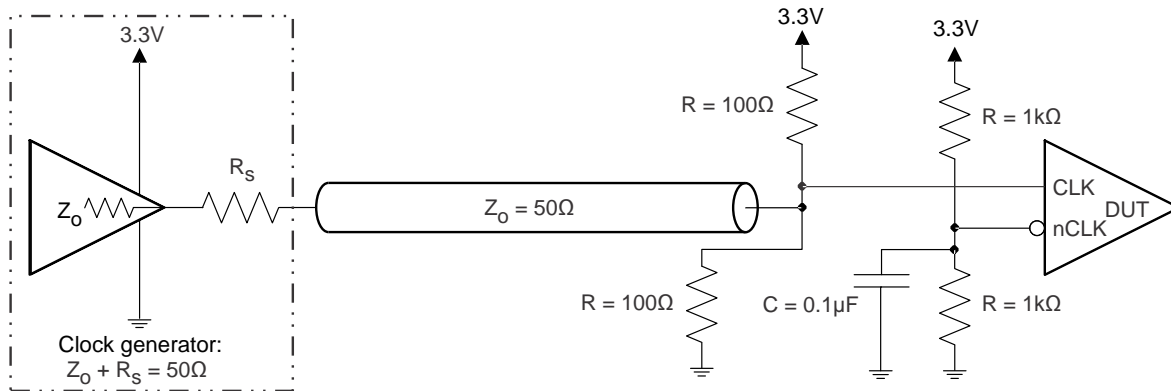

Figure 10. Single-Ended/LVCMOS Input DC Configuration During Device Test
- **CLK/nCLK inputs:** See Figure 21 for the internal connections. When using single ended input, take note of the internal pull-up and pull-down to make sure the unused input is properly biased. For single ended input, the Figure 10 arrangement is recommended.